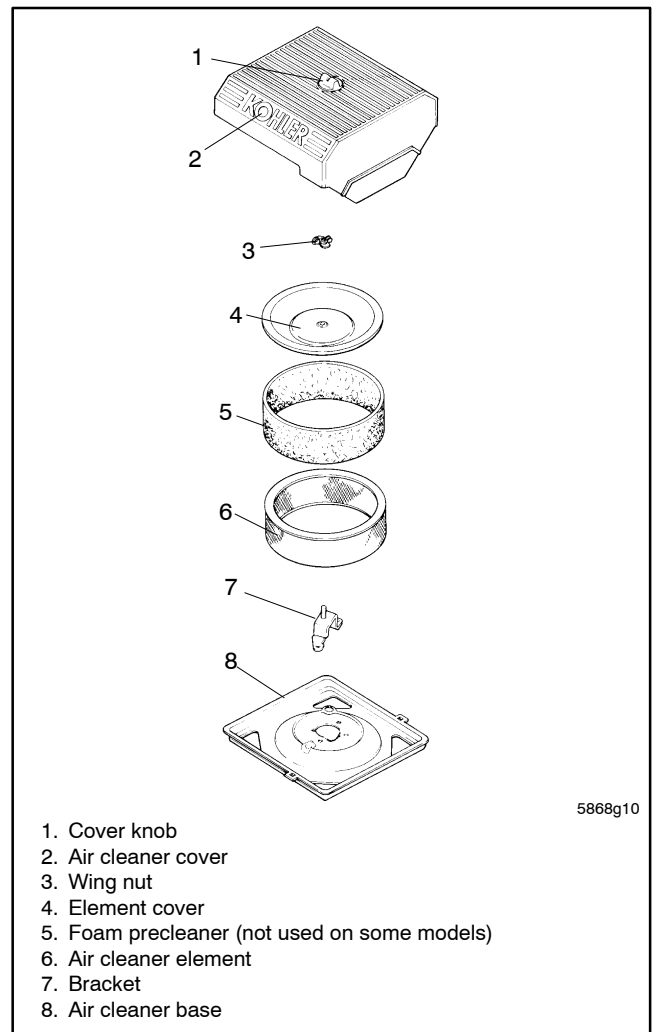

Figure 1 Air Cleaner Components
- a. Loosen the cover retaining knob and remove the air cleaner cover. See Figure 1.